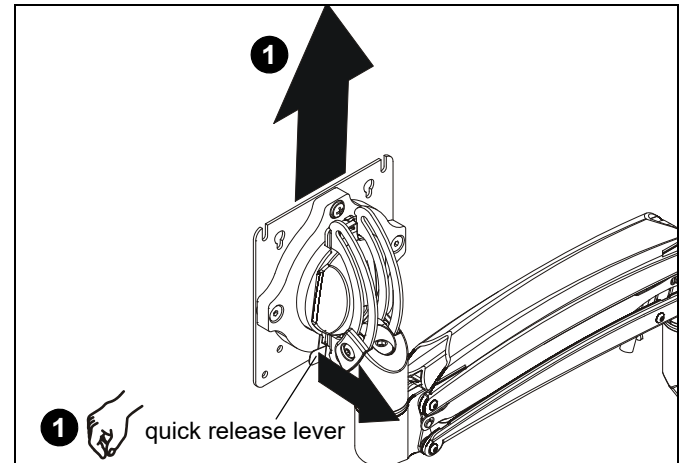

Figure 7
1. Remove quick release faceplate from mount by pulling quick release lever and sliding faceplate off mount. (See Figure 7)